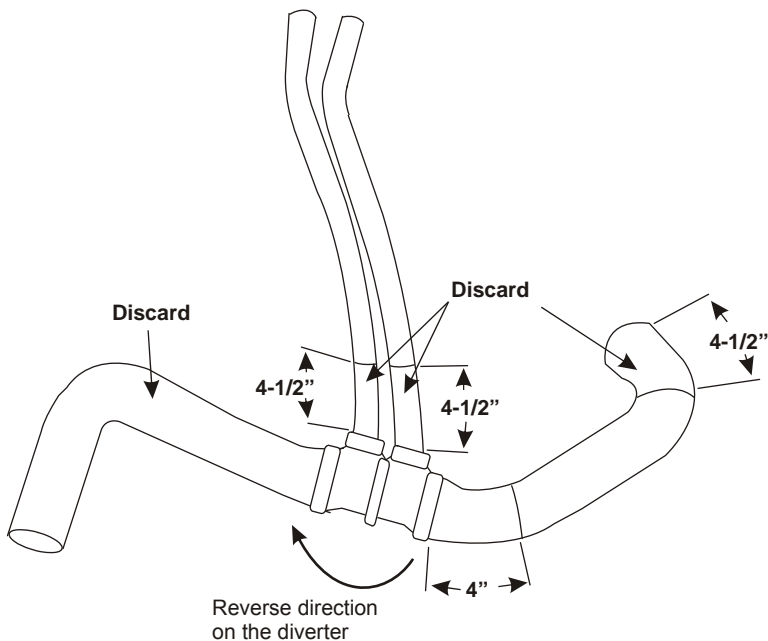

Figure 1.3
- Mark the water pump-to-diverter hose 4 inches (102 mm) from the diverter end and 4-1/2 inches (114 mm) from the water pump spigot end. Cut at these marks and discard the 4-1/2 inch piece (Figure 1.3).